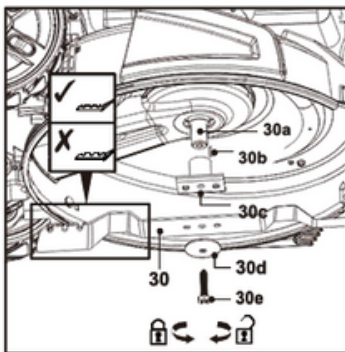

Fig. 27
1. Keep the undercarriage and cutting deck (30) clean and free of debris. Remove grass clippings from the rear discharge chute (29).
2. Regularly check all nuts and bolts for tightness before use. After prolonged use, especially in sandy conditions, the cutting deck (30) can wear out and lose its original shape. This reduces cutting efficiency – in this case, the cutting deck should be replaced.
3. Keep the cutting deck (30) sharp to ensure a good cut. Replace a worn or damaged cutting deck with a new one of the same type or have it sharpened by a qualified professional.
4. If the machine cannot be raised, tilt it to the right so that the fuel tank cap (9) is facing up. This prevents fuel leaks and makes restarting easier, reducing the risk of flooding the carburetor (14). Unscrew the hexagonal screw (30e) counterclockwise using a suitable wrench (17 mm) and remove it, along with the washer (30d), cutting device (30), blade holder (30c), and pin (30b), from the arbor (30a) (Fig. 27).
6. Replace the cutting device (30) with a new one of the same type. Check the condition of the blade holder flange (30c), then secure the cutting device (30) securely and secure the assembly with the washer (30d) and hexagonal screw (30e). Tighten the screw to 40–45 Nm to ensure safe operation of the cutting device.